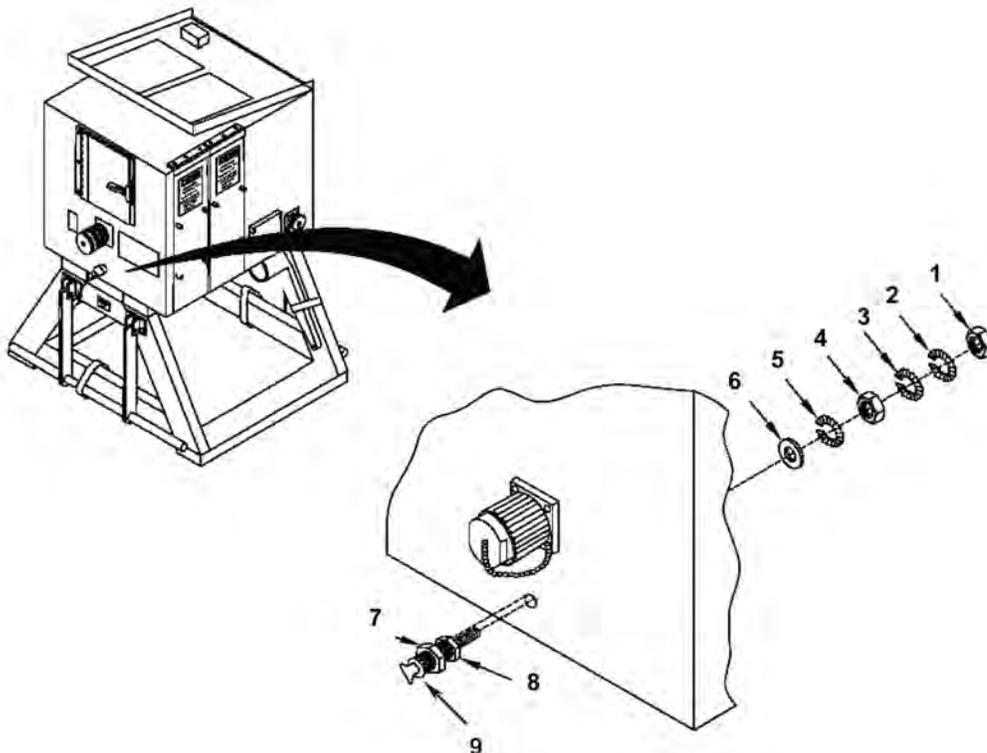

Figure 3. Rear Panel Ground Terminal Post (E1).
2. Locate PDB ground terminal post (Figure 3, Item 9). Tag any wire(s) connected to terminal post.
3. Remove and retain one nut (Figure 3, Item 7), and one lock washer (Figure 3, Item 8) securing wire(s) to terminal post (Figure 3, Item 9). Remove wire(s). Ensure wires are properly tagged.
4. On PP-8440/ASM, remove retaining nut (Figure 3, Item 1), two lock washers (Figure 3, Items 2 and 3), one locking nut (Figure 3, Item 4), and an additional lock washer (Figure 3, Item 5) securing terminal post (Figure 3, Item 9) to PDB. On PP-8440A/ASM, remove retaining nut (Figure 3, Item 1), two lock washers (Figure 3, Items 2 and 3) and one flat washer (Figure 3, Item 6) securing terminal post (Figure 3, Item 9) to PDB.
7. Slide terminal post (Figure 3, Item 9) through front of rear panel. Align terminal post so that the terminal post fits into pre-cut hole in PDB. On PP-8440/ASM install lock washer (Figure 3, Item 5), locking nut (Figure 3, Item 4), two lock washers (Figure 3, Items 2 and 3) and one retaining nut (Figure 3, Item 1). Tighten both nuts (Figure 3, Items 4 and 1). On PP-8440A/ASM install one flat washer (Figure 3, Item 6), two lock washers (Figure 3, Items 2 and 3) and one retaining nut (Figure 3, Item 1). Tighten nut (Figure 3, Item 1).
8. Place tagged wire(s) on terminal post (Figure 3, Item 9) and secure wires by installing one lock washer (Figure 3, Item 8) and one nut (Figure 3, Item 7). Remove tag(s) from wire(s).